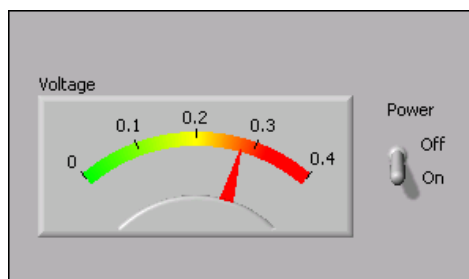

Figure 10.8
1. Open a blank VI and build the front panel shown in Figure 10.8.
- a. Place the **Meter**, located on the **Controls**»**Numeric Indicators** palette, on the front panel. Configure the meter scale for 0.0 to 0.4. Use the **Labeling** tool to double-click 10.0 and type 0.4. You might need to enlarge the meter to display the scale as shown in the example (Figure 10.8).